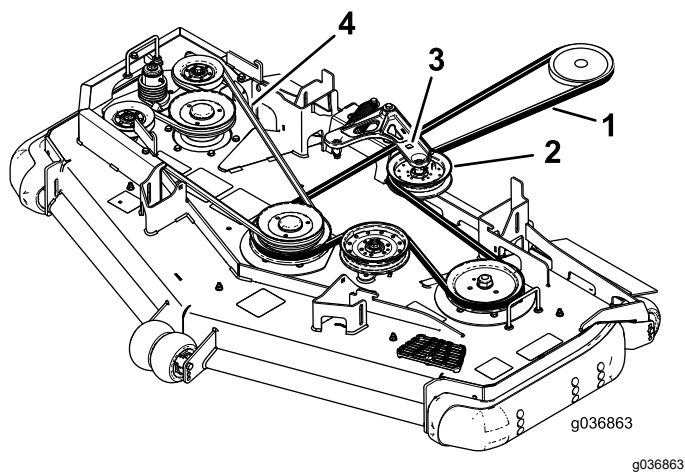

Figure 98
- Using the ratchet in the square hole, install the belt around the spring-loaded idler pulley (Figure 98). Seat the spring ends in the anchor grooves.
- Use a ratchet in the square hole in the idler arm to remove tension on the idler spring (Figure 98).
- Install the new belt around the mower pulleys and the clutch pulley under the engine (Figure 98).